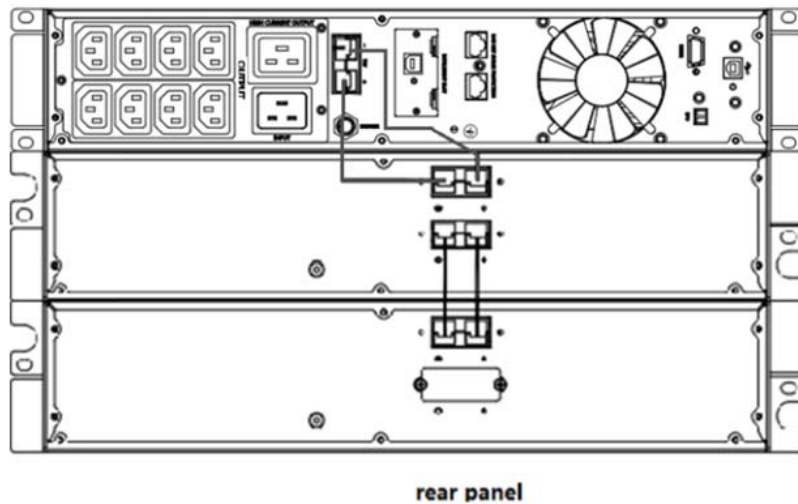

Figure 13 The installation for UPS and battery box
- The installation between UPS and EBPS can be referred to Fig.13
- a) Install the base, then place the RT UPS on the base one by one as Fig.13 shows.